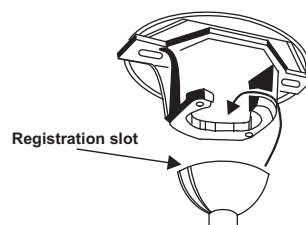

Figure 8
Step 10. Place the downrod ball into the hanger bracket socket. (Fig. 8)